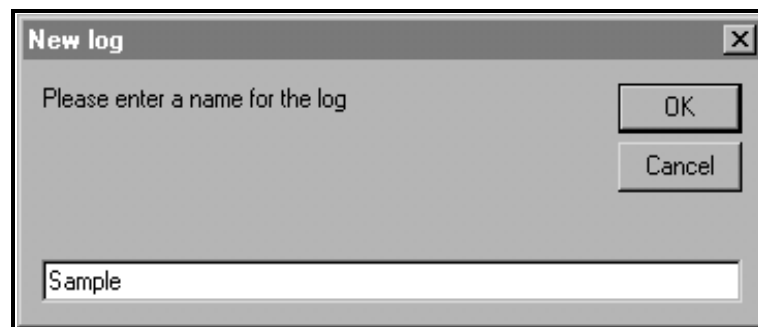

Figure 17: Log Name Dialog Box
5. Enter a log *file name* ("*Sample*" in this case) in the dialog box shown in Figure 17. Click on the **[OK]** option button.